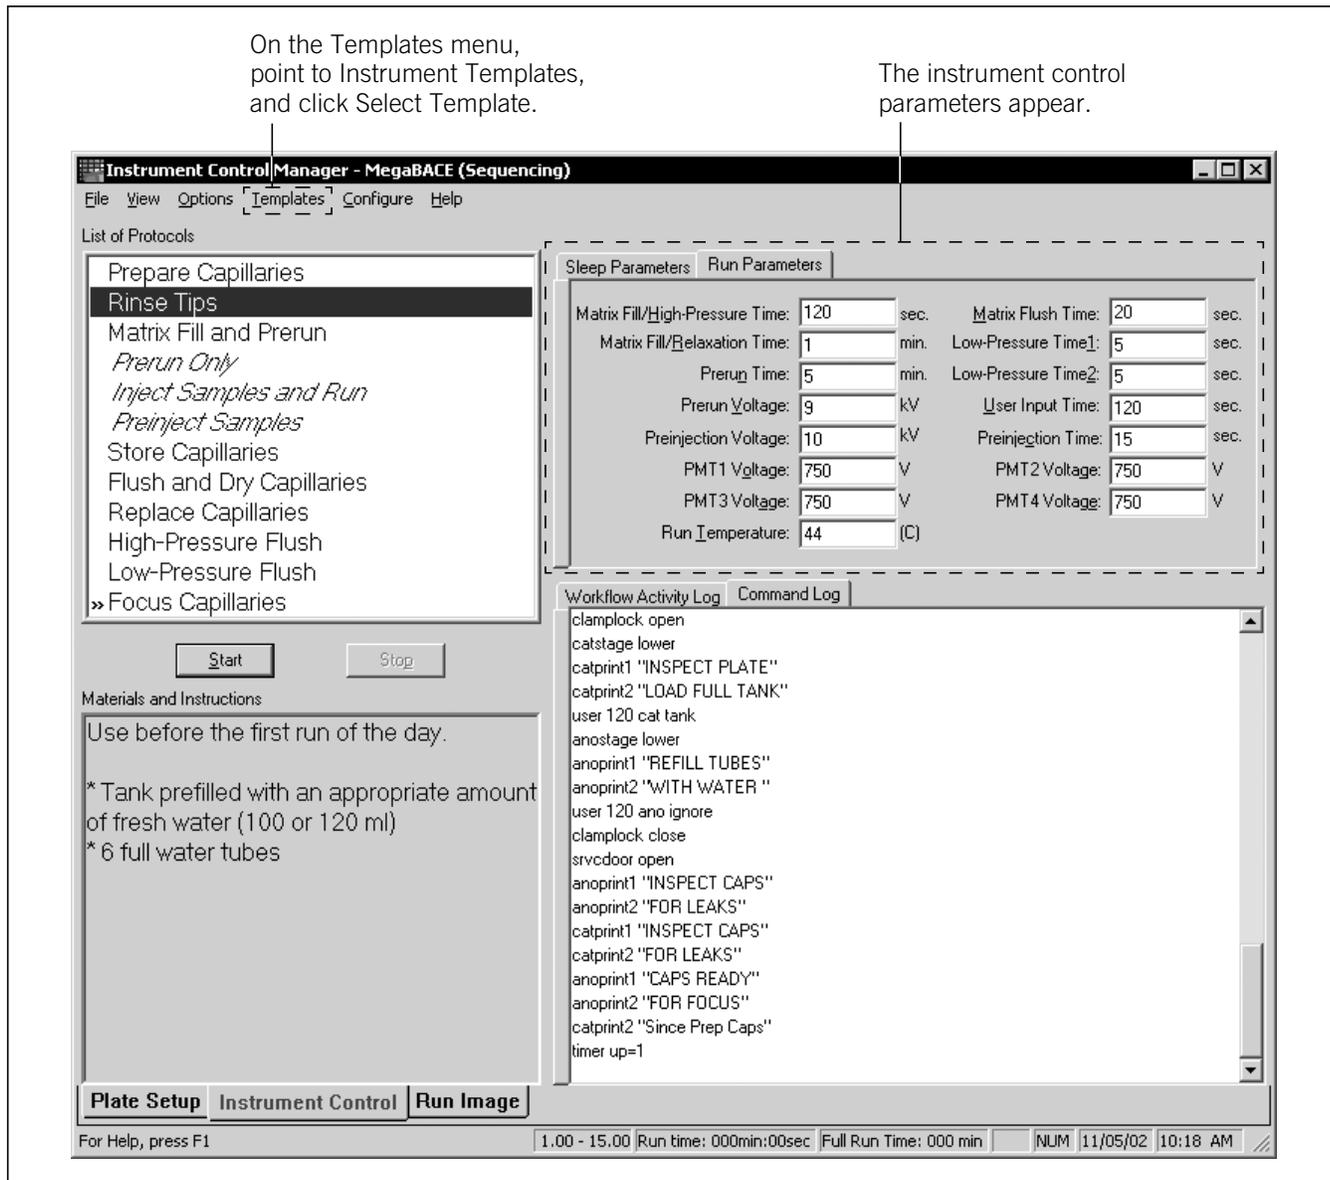

Figure 4-8. The Instrument Control window.
7. Click the **Instrument Control** tab at the bottom of the window to display the Instrument Control window (figure 4-8).
10. Click **Open**. The Instrument Control window displays the parameters for the selected template (figure 4-8).